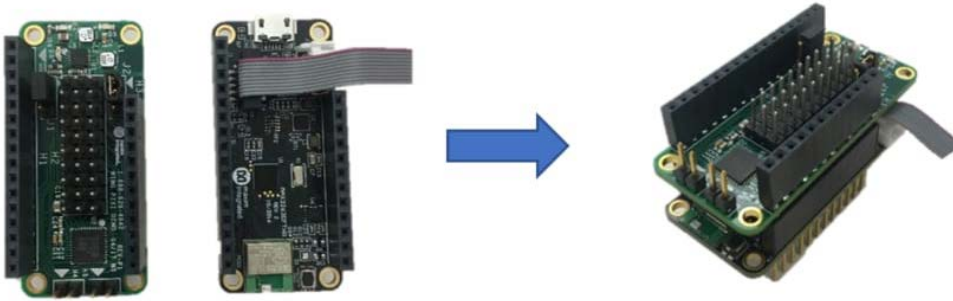

Figure 2. Displays stacking the MAX11301WING on top of the MAX32630FTHR.
3. Stack the MAX11301WING on top of the MAX32630FTHR. The MAX11301WING form factor has 16 pins on one side of the board and 12 pins on the other. Make sure the 16-pin header (H1) and 12-pin header (H3) align on each board when stacking. **Figure 2** shows the MAX11301WING stacking on the MAX32630FTHR.